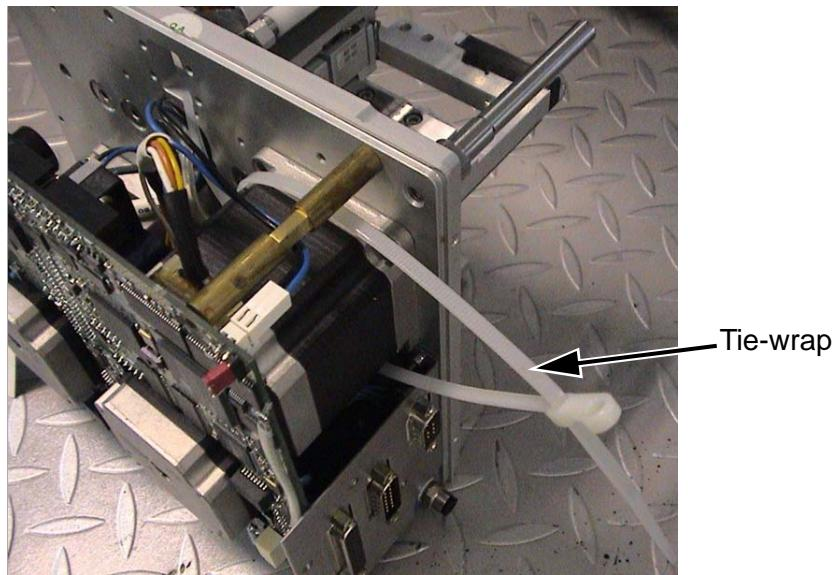

Figure 5-29: Tie-Wrap
- 2 Make sure that the tie-wrap does not hold any cables between the motor and the tie-wrap(s) (refer Figure 5-29).